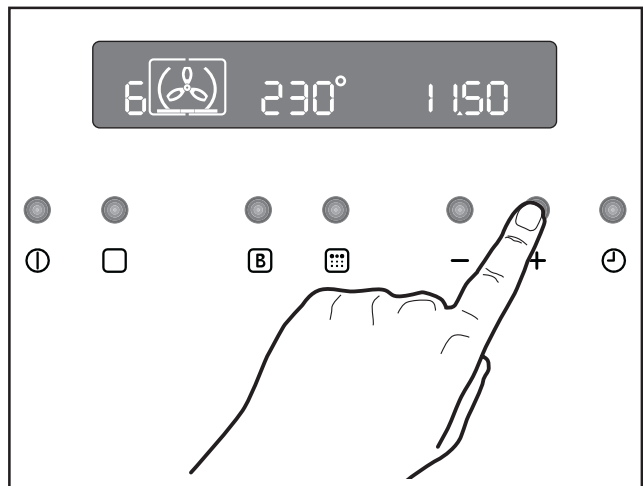

Fig. 7
1. Press button “-” and “+” to increase or decrease the pre-set temperature while the “” symbol is flashing (Fig. 7).